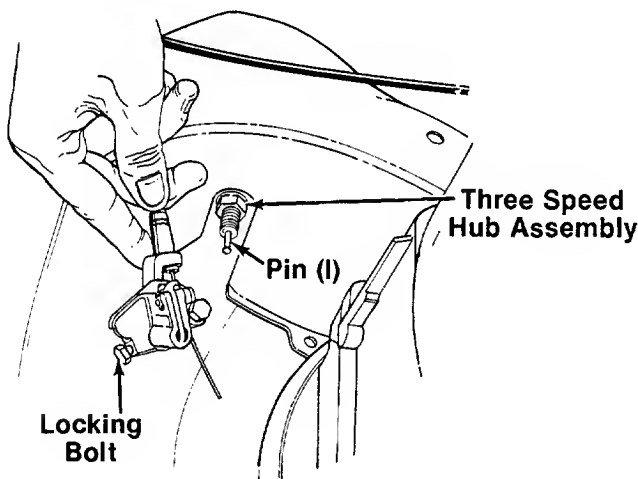

FIGURE 10.
- b. Insert pin (I) into hub assembly as shown in figure 10.
- c. Loosen the locking bolt on the mechanism shown in figure 10 using a 9 mm wrench or socket.